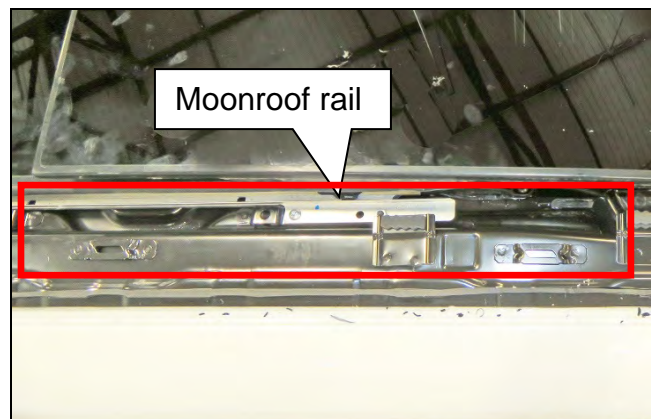

Figure 92
20. Remove any debris / anti-rattle clip material from the Moonroof rail area, outlined in red in Figure 92.